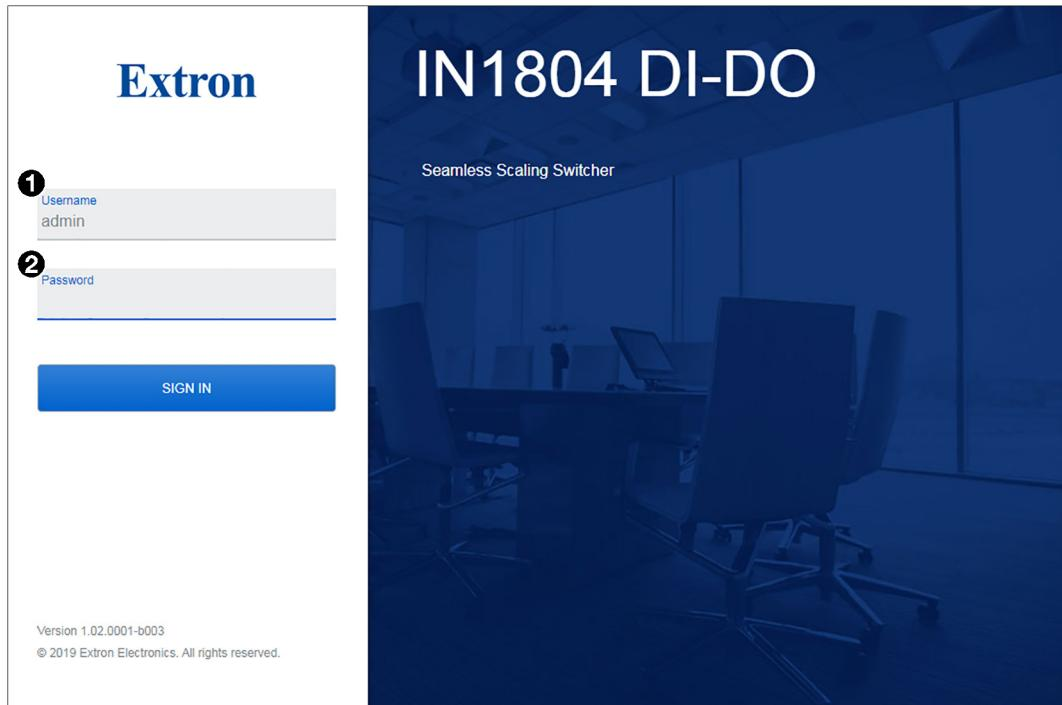

Figure 48. IN1804 DI/DO Sign-in Page
4. Press <Enter> on the computer keyboard. The product sign-in page opens (see figure 48 on the next page).
5. Enter admin or user in the **Username** field (see figure 48, ①).
6. If required, enter the password in the **Password** field (②):